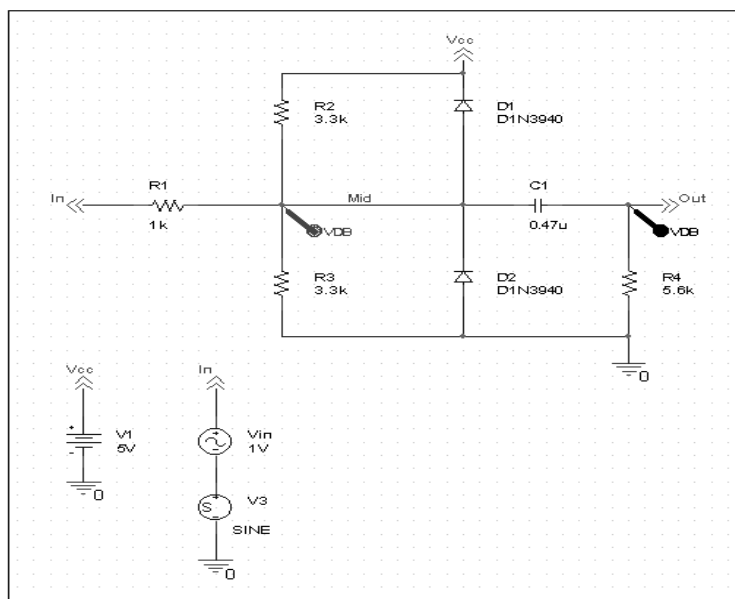

Figure 17 *Clipper circuit with AC stimulus.*
In this example, you will set up the clipper circuit for AC analysis by adding an AC voltage source for a stimulus signal (see Figure 17) and by setting up AC sweep parameters.
- 5 Place the AC voltage source on the schematic page, as shown in Figure 17.